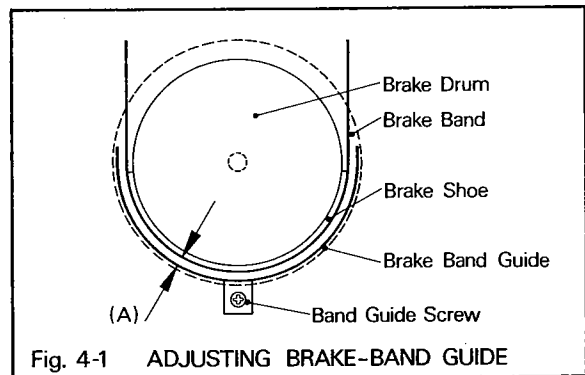

Fig. 4-1 ADJUSTING BRAKE-BAND GUIDE
1. Depress the PLAY BUTTON (46) and the STOP BUTTON (45) repeatedly, and check that the BRAKE BAND moves properly between the BRAKE DRUM and the BRAKE BAND GUIDE.
2. Loosen the BAND GUIDE SCREW and adjust the BAND GUIDE so that the distance between the BRAKE BAND and the BRAKE BAND GUIDE (indicated (A) in Figure 4-1) is about 1mm when the BRAKE BAND is pressed to the BRAKE DRUM in the STOP operation. Depress the PLAY BUTTON, and check that the BRAKE SHOE does not scrape the BRAKE DRUM when the BRAKE BAND is pressed away from the BRAKE DRUM toward the BRAKE BAND GUIDE in the PLAY operation.